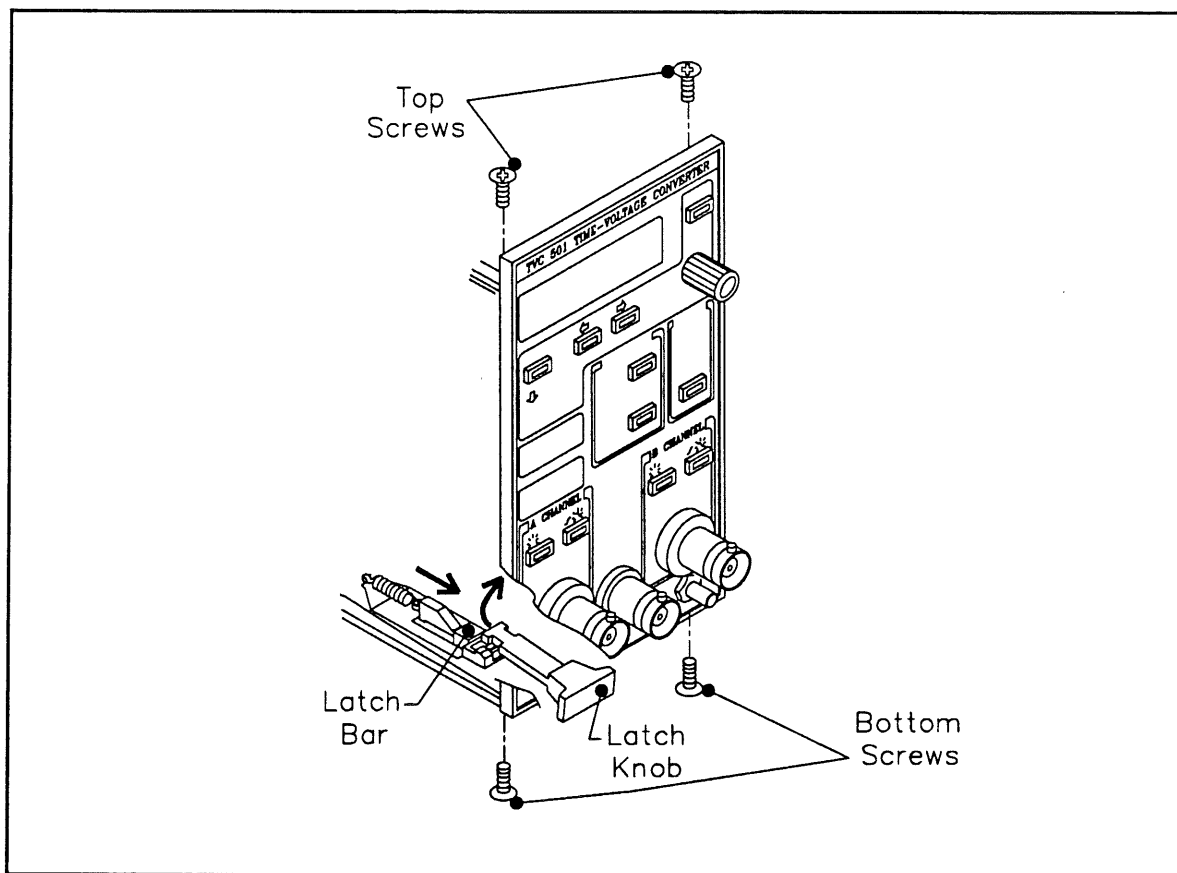

Figure 5-2. Removing the Latch Knob.
2. To remove the latch knob, push the latch bar forward slightly with your finger and lift the knob out of the latch bar as shown in Figure 5-2. Pull the latch knob out through the front panel.
4. To access the latch bar, remove the top and bottom screws of the front panel as shown in Figure 5-2. Pull the front panel out just enough (about 1/2 inch) to access the latch bar.